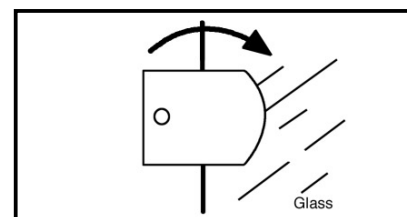

Fig. 2.
2. Turn the two securing brackets back to their original position to retain the glass and tighten the screws. (Fig. 2.)